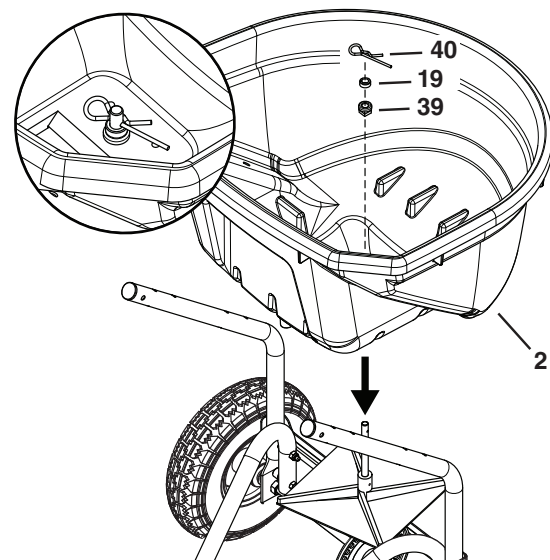

Figure 7
STEP 7: (SEE FIGURE 7)
- Slide the hopper bushing (39) onto the spreader shaft and insert it into the bottom of the hopper.
- Slide the spacer (19) onto the spreader shaft.
- Install the agitator hairpin (40) in the spreader shaft.